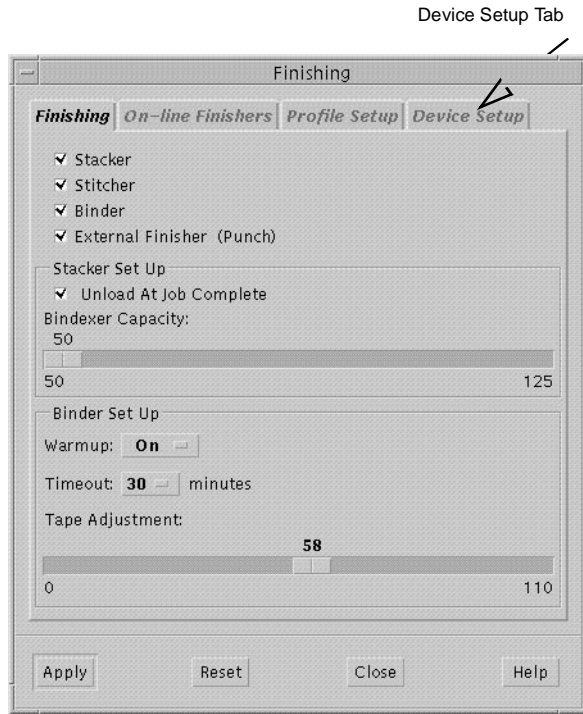

Figure 6-14 The Device Setup Tab in the Finishing Window
The Finishing Window will display, as shown in Figure 6-14.
3. Click on the **Device Setup Tab**, as shown in Figure 6-14.